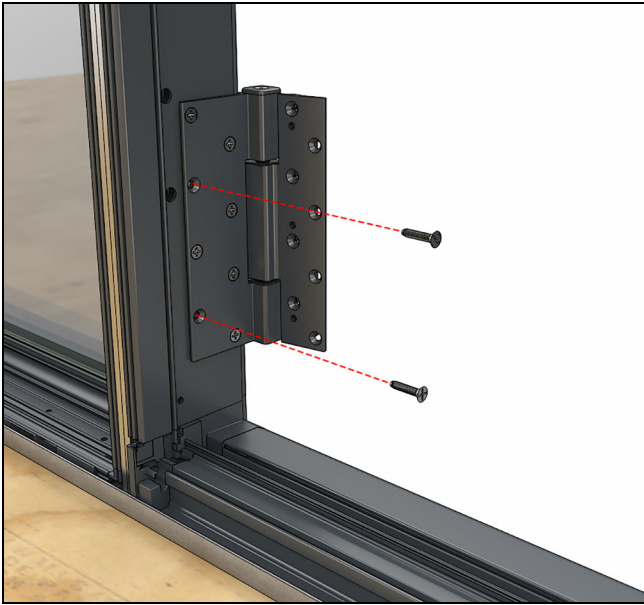
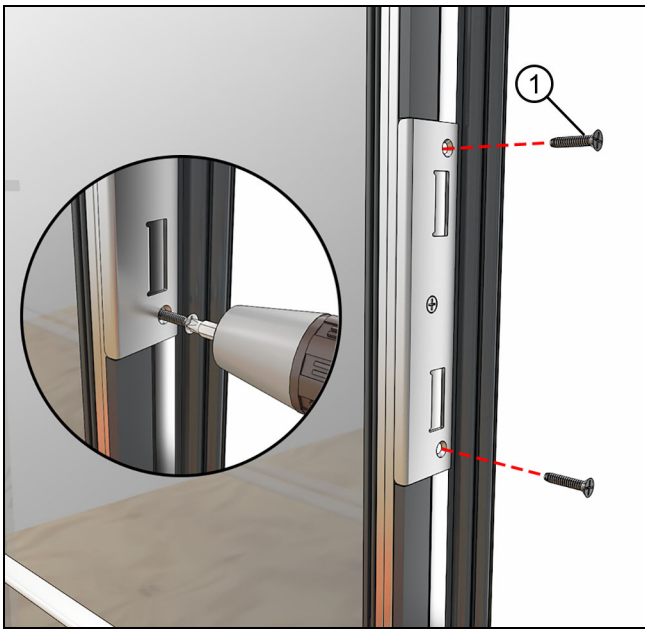

Figure 31 Outswing hinges shown.
Figure 35 Fasten strikes
11. Install the appropriate trilobular fasteners to attach through the hardware and frame into the mullin pin (attached to the unit next to it). See Figure 31 through Figure 35. See the table from step 10 on page 11 for appropriate fasteners and locations.